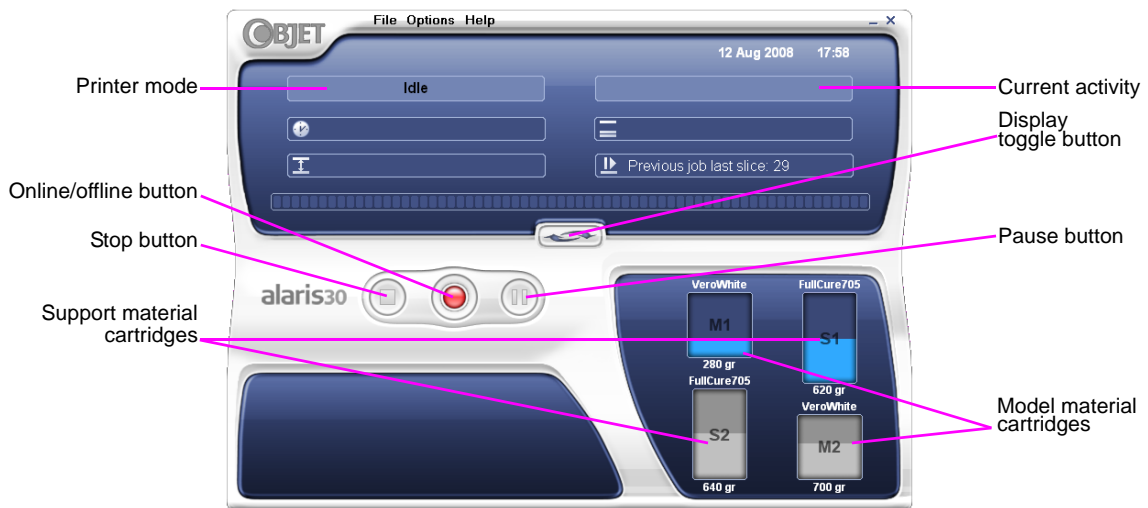

Figure 7-3: Alaris30 interface
The Alaris printer interface screen opens (see figure 7-3). All monitoring and controlling of the Alaris printer is done from this interface.
The Alaris30 printers use two cartridges of model material and two cartridges of support material, each weighing one kilogram when full. A graphical representation of the cartridges and their current weight appears in the printer interface (see figure 7-3).
4. Check the Alaris printer interface to make sure that the new cartridge is detected and that its weight is displayed (see figure 7-3).
2. Make sure that there is sufficient model and support material loaded in the printer, as indicated in the Alaris printer interface (see figure 7-3). You may want to replace the cartridges of model and support material currently loaded in the printer to avoid the need for replacing them during printing.
1. Switch the printer to online mode by clicking the red button at the bottom of the Alaris printer interface (see figure 7-3 on page 3).
**Note:** The printer mode is indicated in the green field on the left of the interface (see figures 7-3, 7-7 and 7-8 on pages 3, 6 and 8).